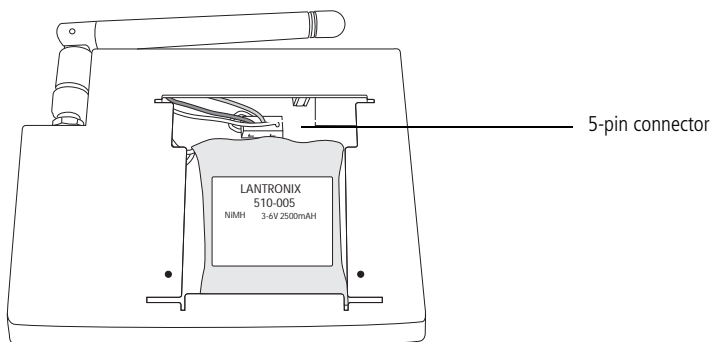

Figure 11 Battery pack in version 2 of wireless unit
- 4 Install the new battery by first plugging in the connector (it fits in one orientation only), then placing the battery, label up, in the compartment. Tuck in the battery wires in the space above the battery to the left of the connector (see Figure 11).